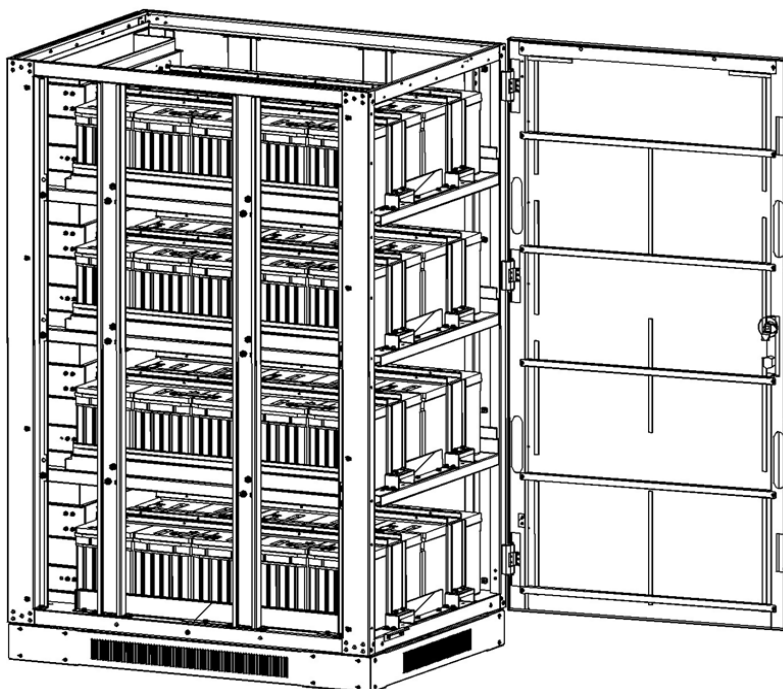

Figure 5-39
8. Reinstall all battery retention brackets and screws (Figure 5-39).